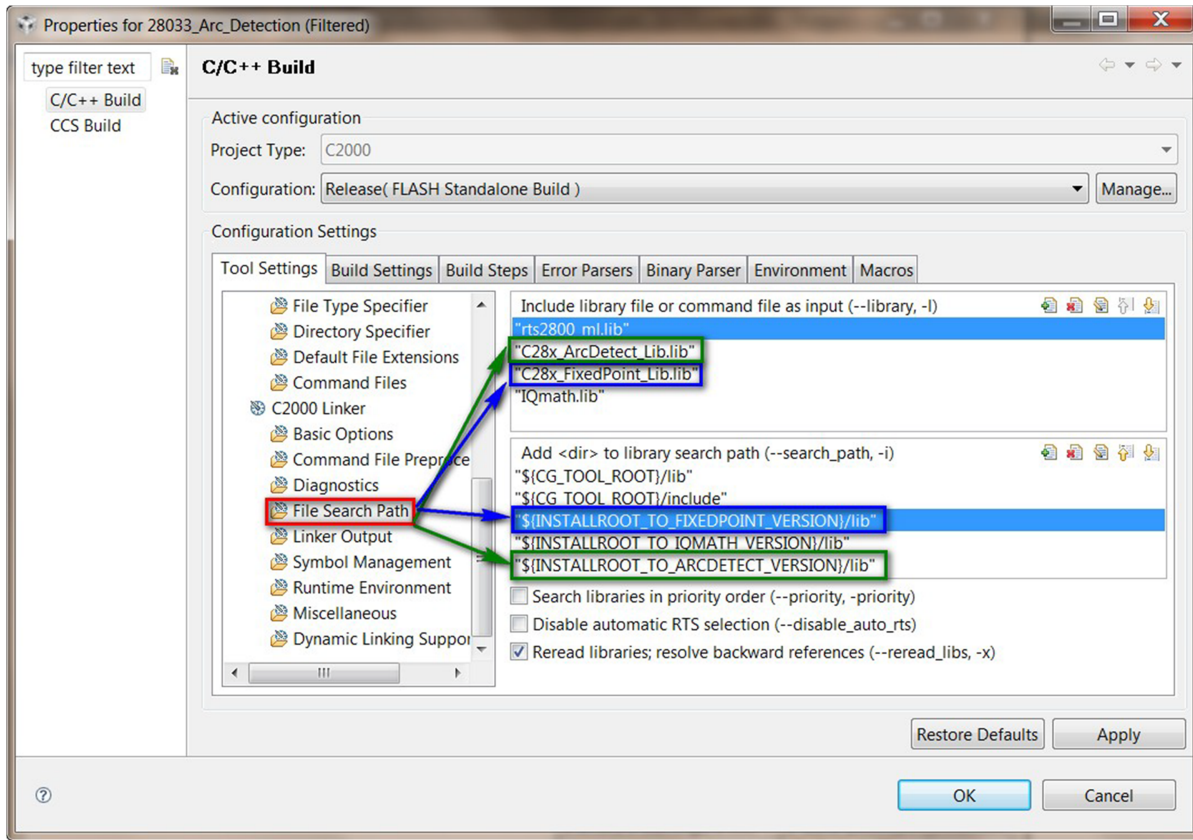

Figure 19. Adding the library and location to the file search path
2. Add the name of the libraries(Arc Detection and Fixed Point) and their locations to the **File Search Path** as shown in Figure 19.